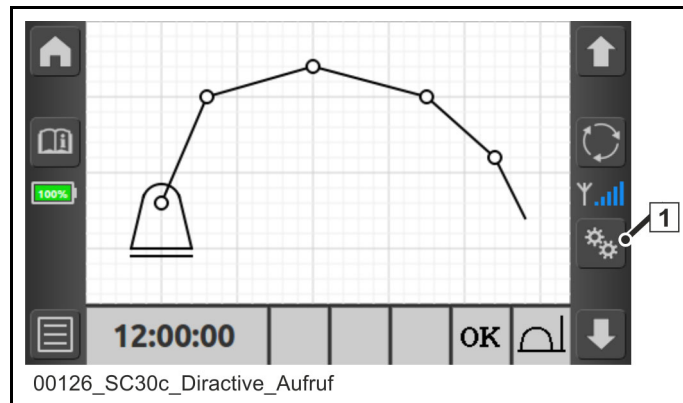
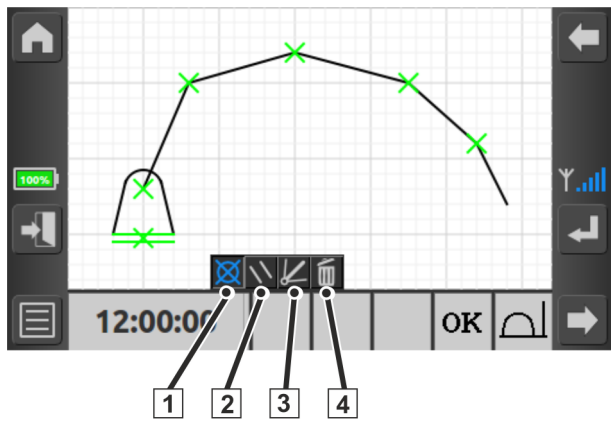

Fig. 504 Example: 5-part placing boom
Fig. 505 Example: 5-part placing boom
Open the "Diractive" screen using "Open settings" (1) (**Fig. 504**). The screen also contains a function bar, see (**Fig. 505**).
The main “Diractive” screen (**Fig. 504**) contains an overview of the functions that are currently locked.
Caption for (Fig. 505)